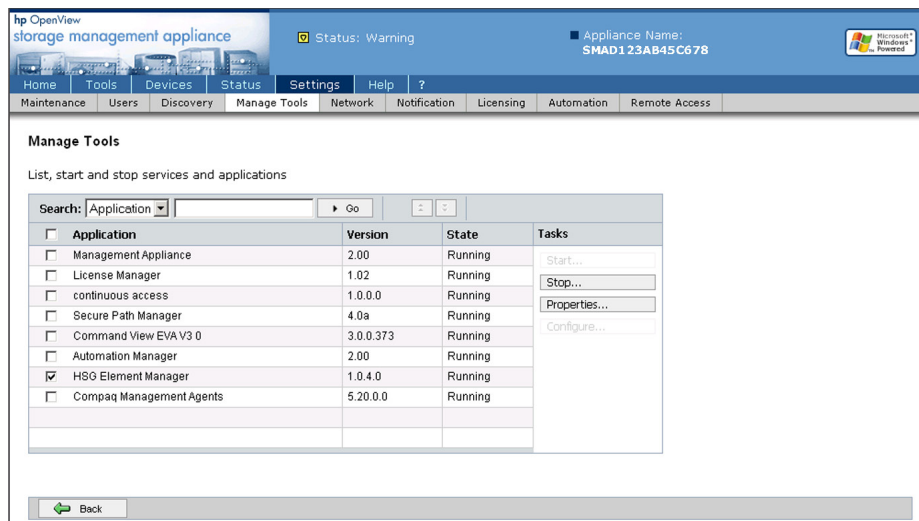

Figure 35: Selected applications to stop on the Manage Tools page
4. Choose the check boxes of the applications to be stopped. The **Stop** and **Properties** tabs become visible under the **Tasks** section (Figure 35).